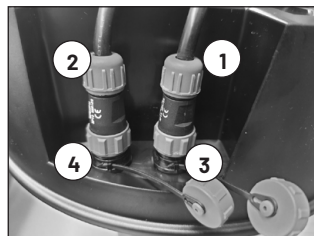

Figure 1
1. Connect the ground connector (13) to the grounding post using the ground connection cable supplied. Follow the tips in section 7.4 to ensure proper grounding.
2. Insert the mains adaptor connection cable (1) and/or battery connection cable (2) into the connection(s) on the device and screw the plug(s) tight (Fig. 1)